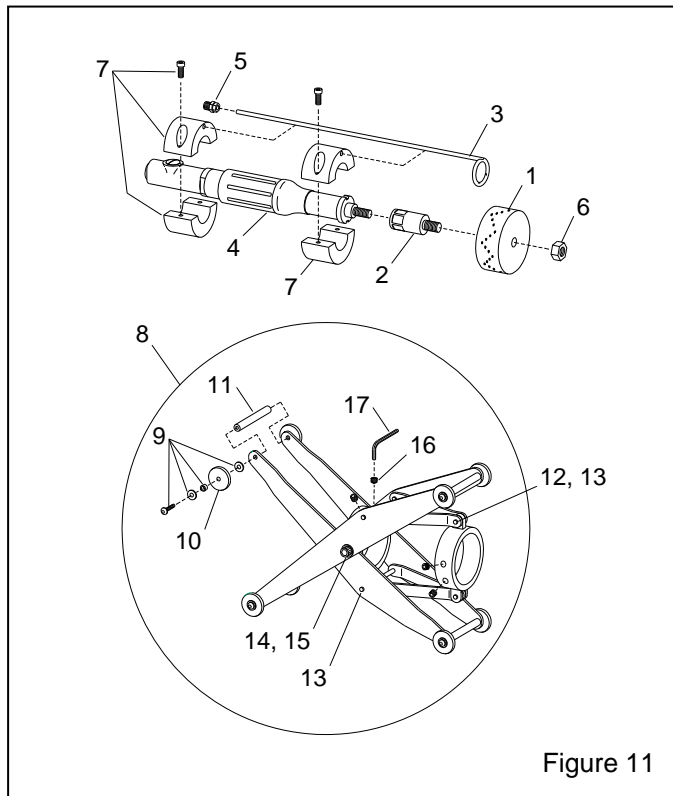

Figure 11
8.5 Spin-Kote 817 with 4" Head, Figure 11